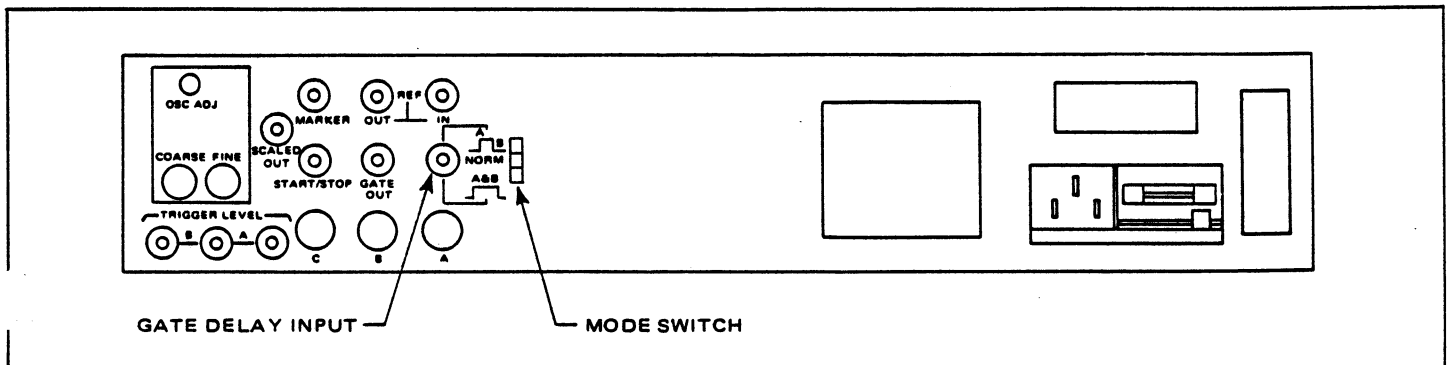

Figure 2.6 - Gate Delay Input Connector and Mode Switch
2.13.1 The External Gate Control features of the Series 9000A Counter enables the user to control the counters measurement gate so that the measurement window can be focused on a time-discrete portion of the input signal. Thus the counter can measure the parameters of a selected portion of a composite or complex wavetrain. The gate delay function operates in three modes: (1) the NORMAL or gate delay mode, (2) Selective Gate Control mode and (3) the Synchronous Window Control Mode. The mode is selected by setting a rear panel switch to the desired mode position. The gate signal is applied to the counter through an input connector which is also located on the rear panel of the counter. A view of the rear panel illustrating the gate delay mode switch and gate delay input connector is shown in Figure 2.6. The switch settings and modes are shown in Table 2.19. A description of the counter function in each of these modes is presented in the following paragraphs along with examples of applications for each mode.